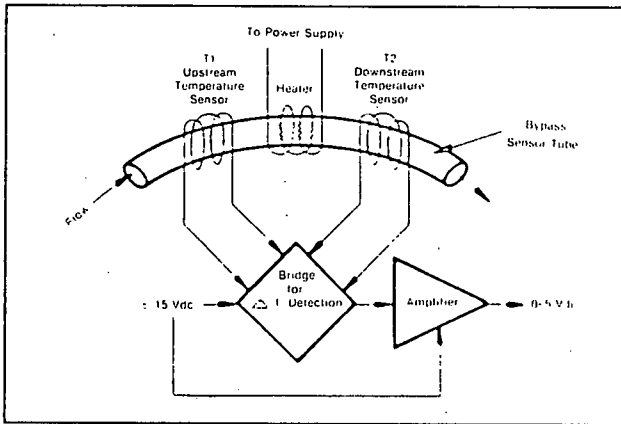

Figure 3-1 Flow Sensor Operational Diagram
A precision power supply provides a constant power heat input (P) at the heater, which is located at the mid-point of the sensor tube. Refer to Figure 3-1. At zero, or no flow conditions the heat reaching each temperature sensor is equal. Therefore the temperatures T1 and T2 are equal. When gas flows through the tube the upstream sensor is cooled and the downstream sensor is heated, producing a temperature difference. The temperature difference T2-T1, is directly proportional to the gas mass flow.